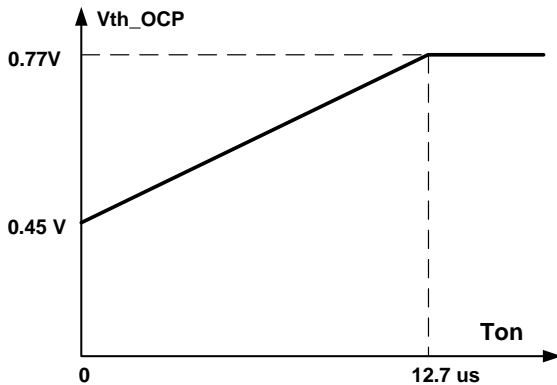

Fig.4
0.45V to 0.77V. For the ON time larger than 12.7 $\mu$ s, the OCP threshold is clamped to 0.77V, as shown in Figure 4.